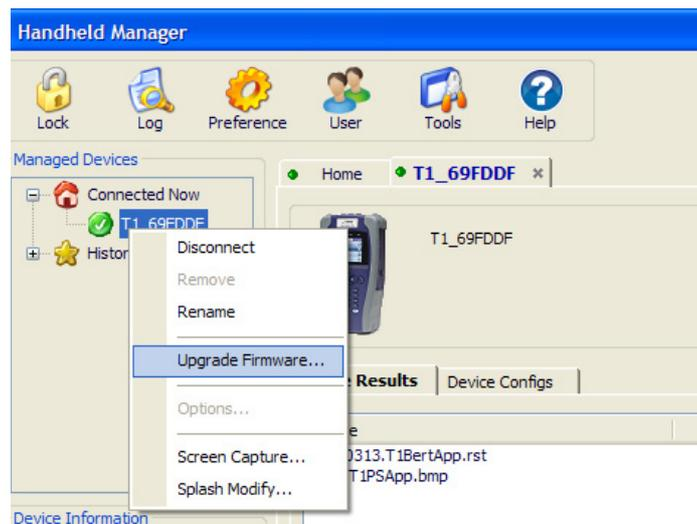

Figure 16 T1 Upgrade Firmware
- 2 In the left pane, under “Connected Now”, right click on the unit to be upgraded and then click **Upgrade Firmware**, as shown in Figure 16.
Figure 16 provides an example of an activity log.